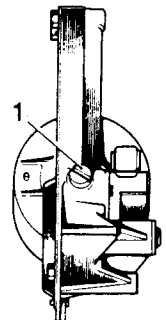

Fig. V3.10
- (1) Refit the limit switch (13).
- (2) Replace the brush gear assembly (12).
- (3) Connect the leads between the motor and the limit switch: Blue lead to terminal 1, red lead to terminal 5.
- (4) Use Shell Turbo 41 oil sparingly to lubricate the bearing bushes, armature shaft bearing journals, gear wheel shaft and wheel box spindles. Thoroughly soak the felt washer in the yoke bearing with oil.
- (5) If a replacement armature is to be fitted, slacken the thrust screw (1) (See Fig V3.10), to provide end float for fitting the yoke.
- (6) Fit the yoke and gearbox together aligning the marks made in Paragraph 2 step (8).
- (7) Fit the yoke securing bolts (10) and tighten to 2,3 N.m.
- (8) Set armature end float: Hold the yoke vertical with the adjuster screw (1) uppermost (See Fig V3.10). Carefully screw in the adjuster until resistance is felt. Screw back the adjuster one quarter turn. This gives the required end float.
- (9) Fit the dished washer beneath the gear wheel with its concave side towards the gear wheel.
- (10) Replace the gear (7) and secure with the circlip and washer (6).